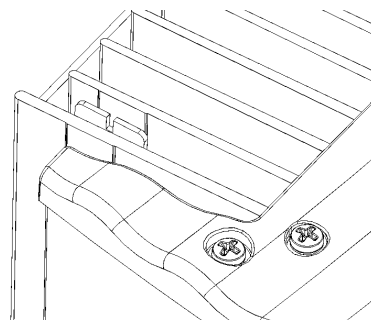

Figure 5.3: **Safety catch (closed)**
- Lock the safety catch. To do this, slide the upper end of the safety catch towards the wall until the groove runs parallel to the wall (see figure 5.3).